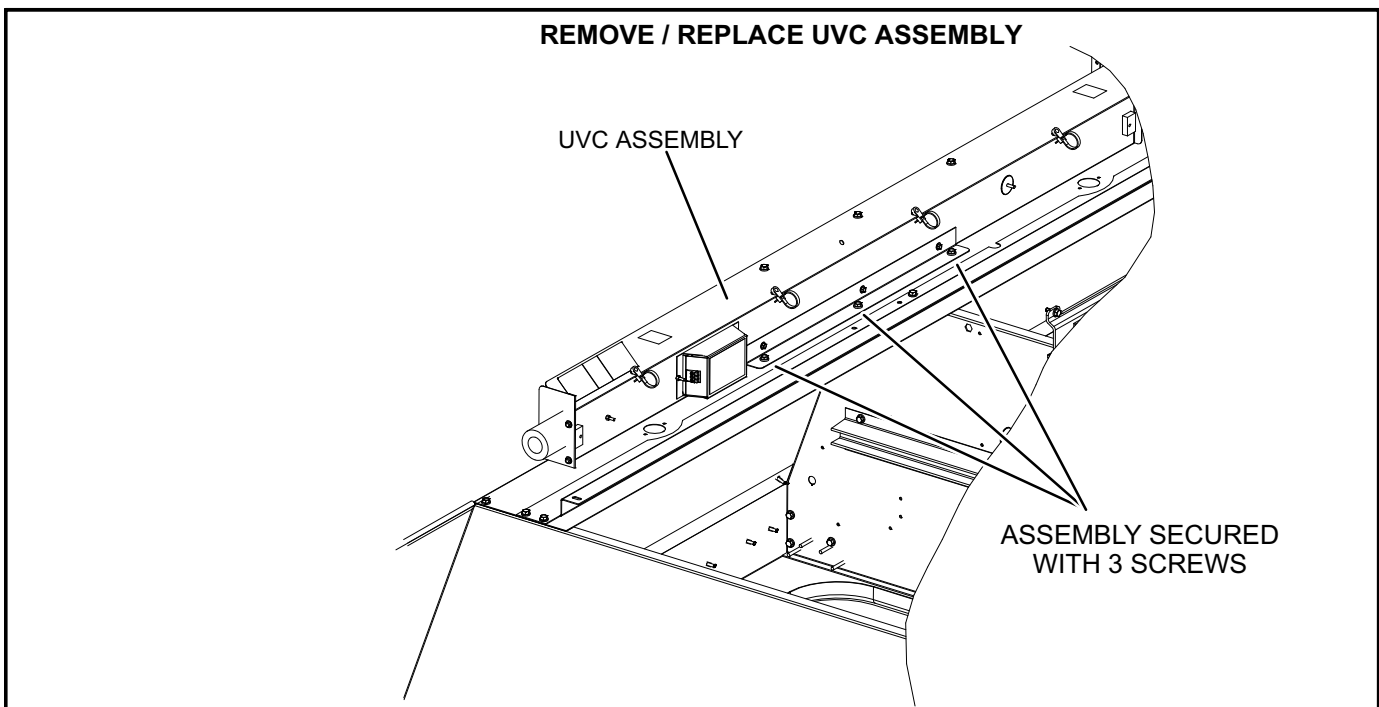

FIGURE 47
- 5- Remove and retain the (3) mounting screws securing the UVC assembly. Carefully remove the complete UVC assembly out through the blower access door. See figure 47.